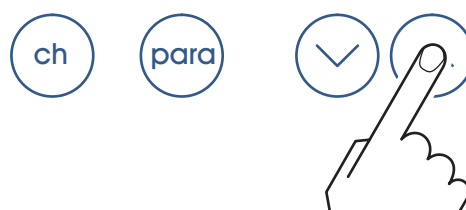

Fig. 4-4 Press the UP button for 1 second
- 2 Keep the UP button pressed for approximately 1 second. See Fig. 4-4, 17.